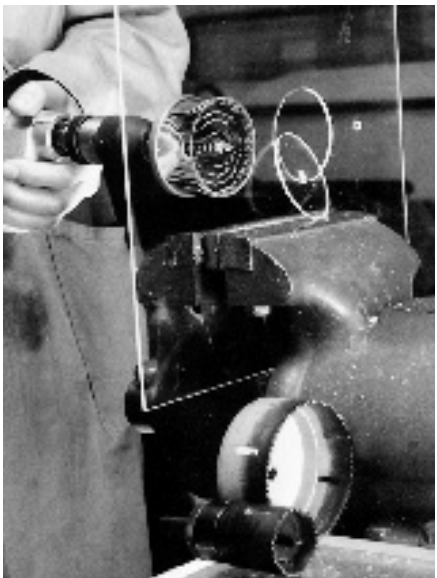

Fig. 17: "Slugger" cutter and hole saw
- “Slugger” cutter or hole saw (Fig. 17)